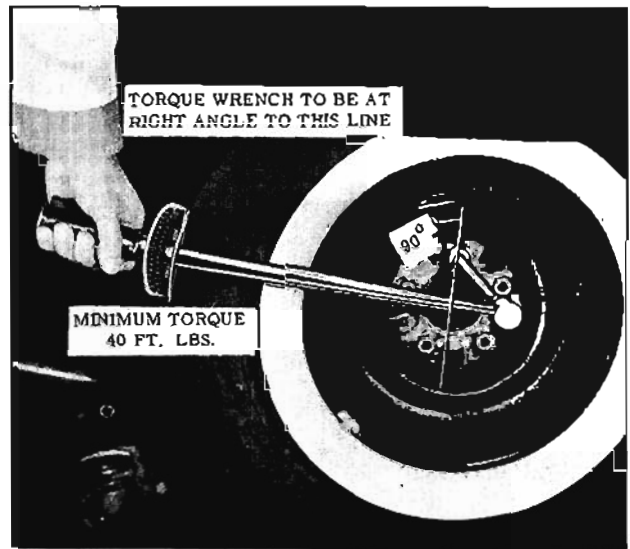

Fig. 10-44 Checking Anti-Spin
3. Remove hub cap or wheel disc and apply a torque wrench as shown in Fig. 10-44.